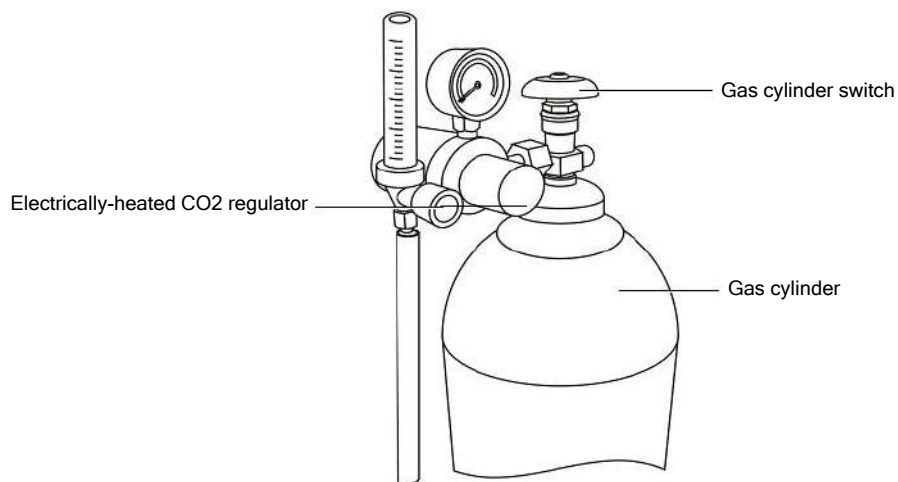

Figure 2-5 Position of the electrically-heated CO₂ regulator
1. Use installation nuts to mount the electrically-heated CO₂ regulator (see Figure 2-5) to the gas outlet of the gas cylinder, and fasten the regulator.